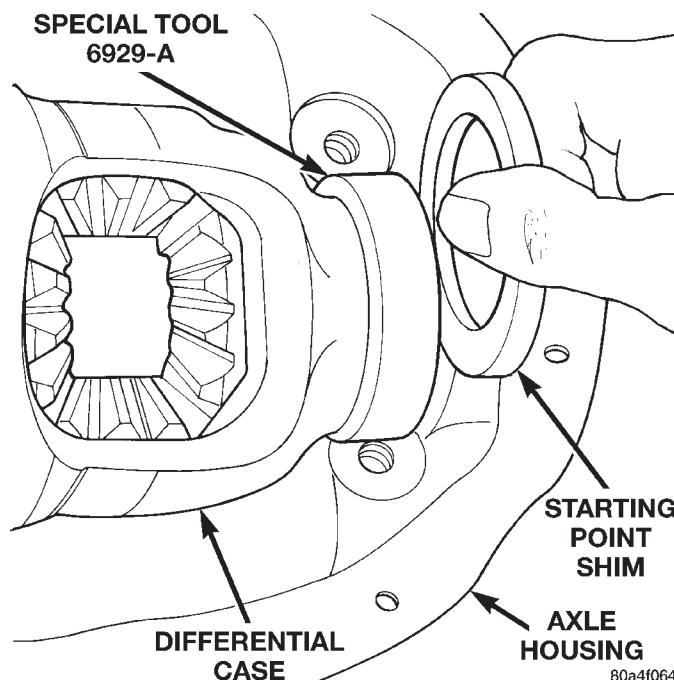

Fig. 74 Preload Measurement Starting Point Shim
- (1) Remove side bearings from differential case.
- (2) Install ring gear on differential case and tighten bolts to specification.
- (3) Install dummy side bearings 6929-A on differential case.
- (4) Install differential case in axle housing.
- (5) Insert Dummy Shim 8107 (0.118 in. (3.0 mm)) starting point shims between the dummy bearing and the axle housing on side of differential (Fig. 74).